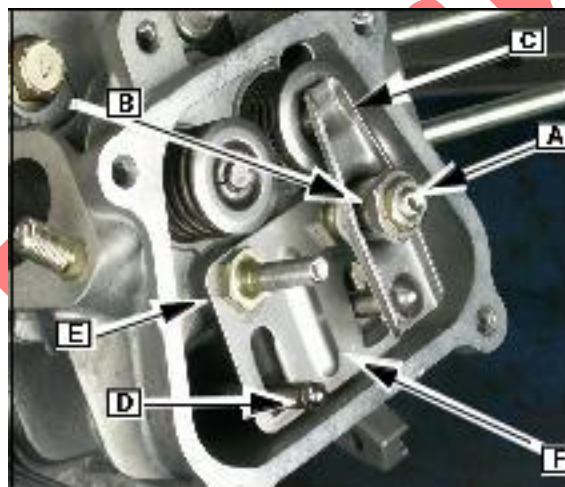

Fig. 2
Remove the rocker arm pivot (B) from the studs and remove the rocker arms ([C] Fig. 2).
3. Remove valve stem caps (if equipped) and push rods (D).
4. Remove rocker stud (E) and push rod guide ([F] Fig. 2).